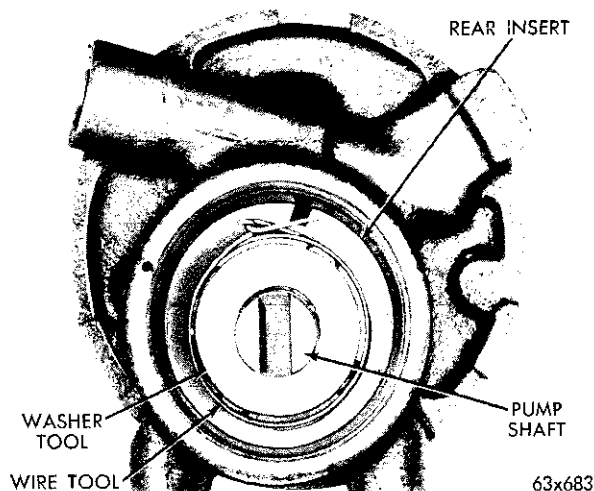

Fig. 19—Installing Rotor, Shaft and Slippers Assembly
(15) Insert the shaft and rotor assembly with the flat washer tool and slipper retaining wire tool into the pump cam insert so that the slippers and rotor are inside the cam with the end of the shaft resting against the back face in the housing (Fig. 19).